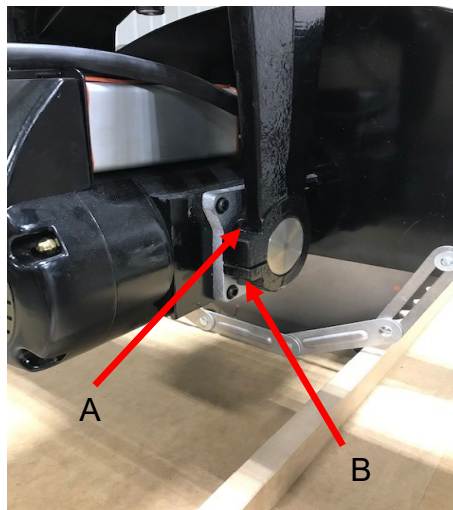

Figure 6
2. Tighten rear trunion pinch bolt socket head cap screw (B, figure 6) until bevel movement becomes slightly difficult and requires force to move. Reset its locking set screw to a torque of 90—100 inch/lbs.